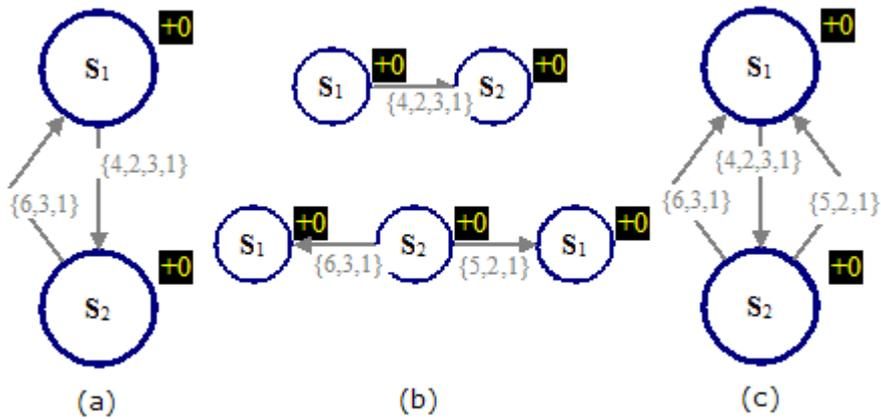
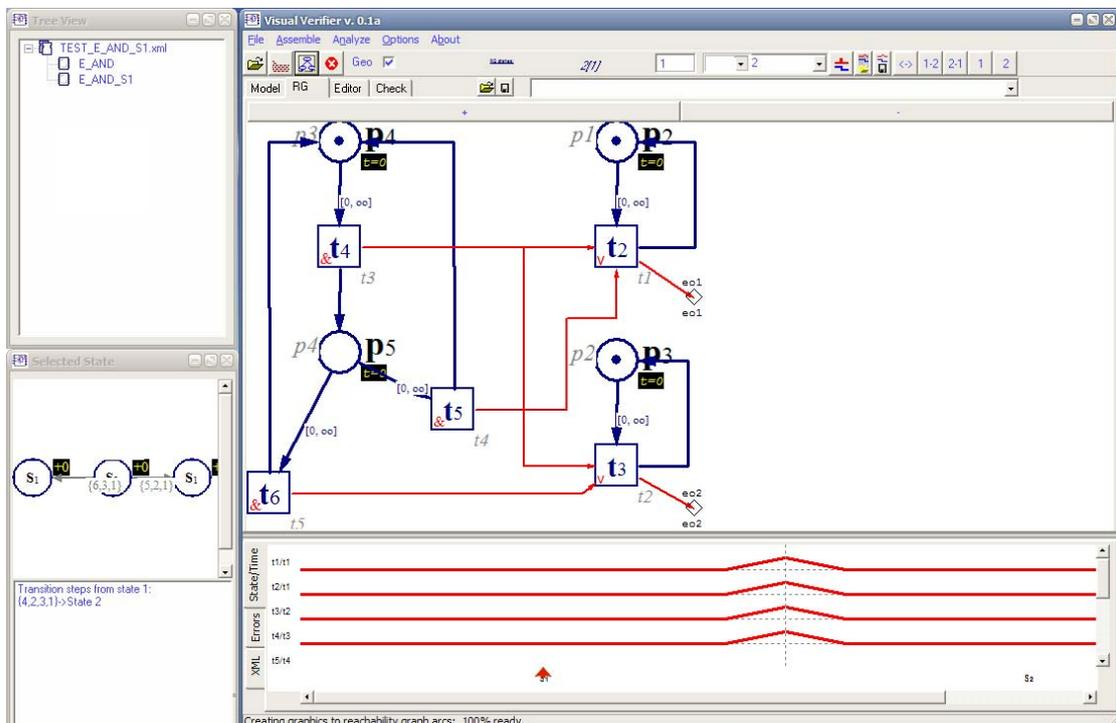

Figure 9 (a) Snapshot of ViVe RG Tab (b) Snapshot of ViVe Select State Window (c) Combined Reachability Graph
Figure 10 Limitation of the ViVe Model Tab
**Note:** The current version of ViVe has some limitations in displaying the reachability graph in the RG tab and the enabled transitions in the Model tab. For the RG tab, when the destination states of multiple transition steps are identical, the RG tab will only display one transition step as shown in Figure 9 (a). Figure 9 (b) shows that there are two transition steps from S2 to S1: Transition Step {6, 3, 1} and {5, 2, 1}. However, the RG tab only displays one transition step. Moreover, since there is no intermediate state it is impossible to select the other transition step by using the Trace Toolbar. The workaround for this is to select the source state, e.g. S2, and examine all possible transition steps in the Selected State window. In this guide the ViVe reachability graphs are manually processed to include all transition steps as illustrated in Figure 9 (c) for your convenience.
Normally the Model tab of ViVe highlights the enabled transitions in current state. However, if the states in the reachability graph form a loop and the last state is selected, the Model tab will not highlight the enabled transitions. For example, Figure 10 shows the Model tab displaying the content of model **E\_AND\_S1** in State S2. In according to the Figure 9 (a), t6 is enabled and must be highlight in the Model tab. The workaround for this limitation is also to refer to the Selected State window and set the steps in the Trace Toolbar.
Model **E\_AND** is designed to model Boolean AND operation, therefore t1 will only be enabled when both E\_AND\_S1.eo1 and E\_AND\_S1.eo2 present simultaneously. This behaviour is verified in according to the reachability graph shown in Figure 9 (c).